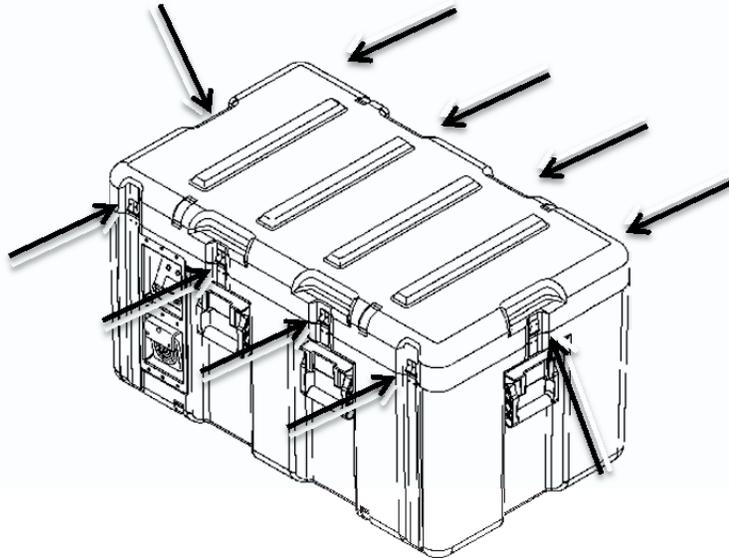

Figure 6. AX56L Outer Lid Latches
2. Unlatch the outer lid. This lid has 10 latches, one on each short side, four on the front, and four on the back (Figure 6).